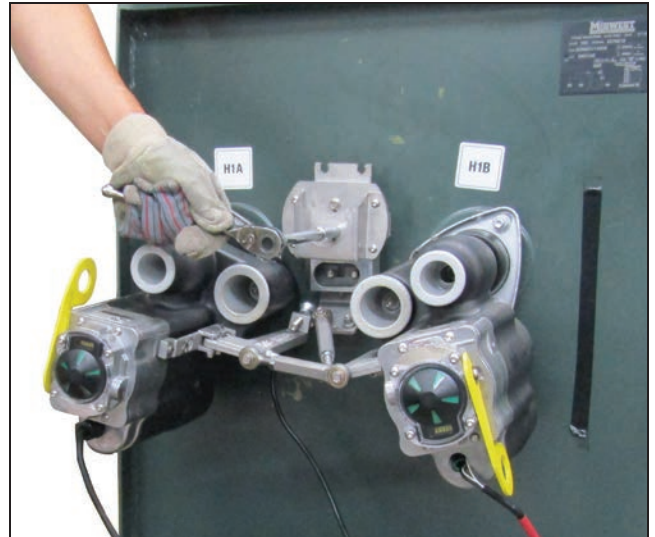

Figure 10. Loosening the bolts.
- STEP 1.** Loosen and remove the two $\frac{1}{4}$ -20 $\times$ $\frac{5}{8}$ -inch flange head bolts shown in Figure 10. Remove the parking stand spacer.